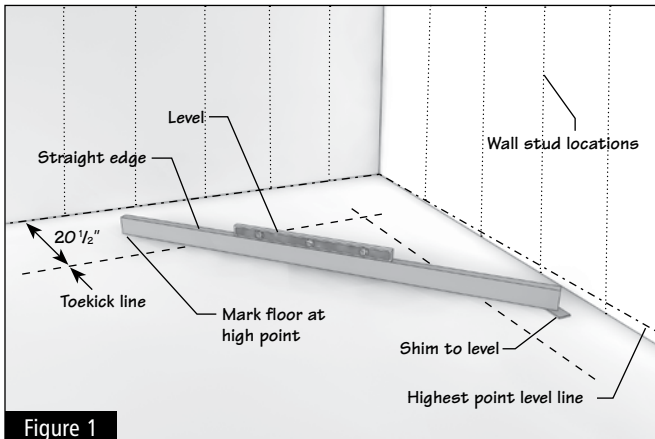

Figure 1
1.1 First, locate the floor's highest point. In order to do this, place your level at the base of the wall, checking several places along the wall until you find the high point in the floor. Mark this spot. (Figure 1)